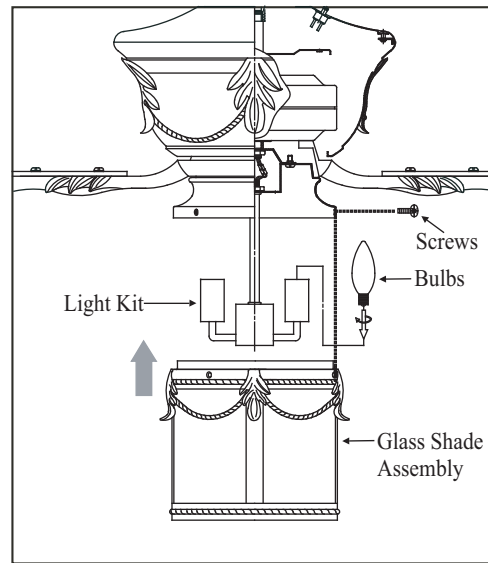

Figure 20
4. Install 3 x 40W candelabra bulbs (included). (Figure 20)
5. Install the glass shade assembly to the switch housing with 4 screws provided. (Figure 20)